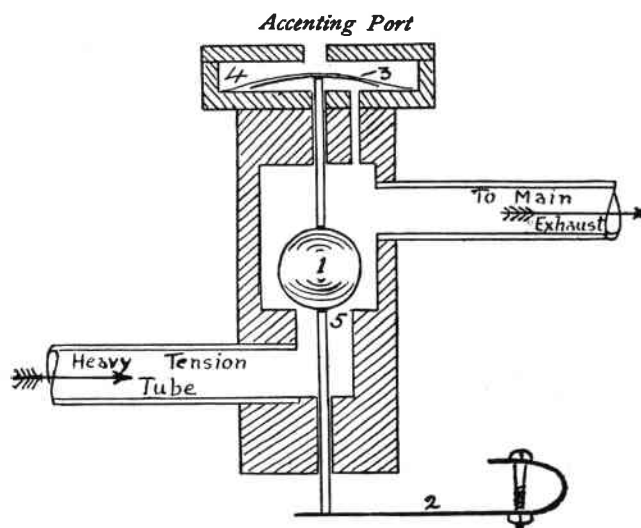

Fig 2. Pistonola Accentor.
When the button (A) is pressed, the pallet (B) is opened. Air rushes to the pouch, lifting C. The small valve chest beneath D is now under vacuum and E is collapsed, as in Fig. 2, closing F; and all the striking pneumatics are now influenced by the low tension, giving the piano effect. The pouch beneath D is connected to the tracker bar and the accentuated roll (when A is depressed) lifts D, as in Fig. 3, allowing open air to rush down to E and instantly opening F to heavy wind.
Another main exhaust tube leads from the pedal pistons up to the tube marked Main Exhaust (Fig. 2). From this accenting device, the heavy tension is the rear metal tube, and by similar connections in each piston section exhausts the air from B (Fig. 1).
There are two of these accentors, one at each end of the player, and in their operation they differ completely from those accenting devices I have already described. The Pistonola accentor emphasizes the melody notes *without cutting down the tension*. The treble and bass buttons, also, do not reduce but increase the power. If you glance at Fig. 2, I will endeavour to make it clear. The ball governor is there at normal wind, ample power being obtained through the